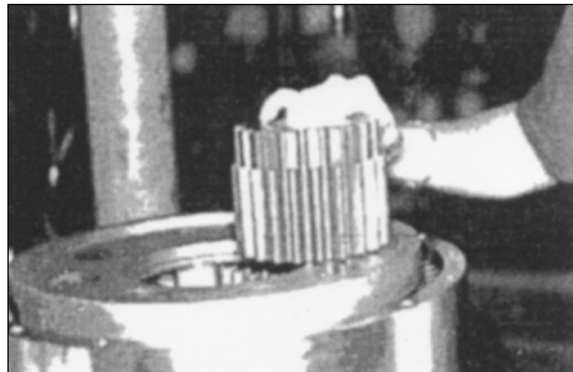

Figure 105
14. Assemble third shift sun gear. Figure 105.